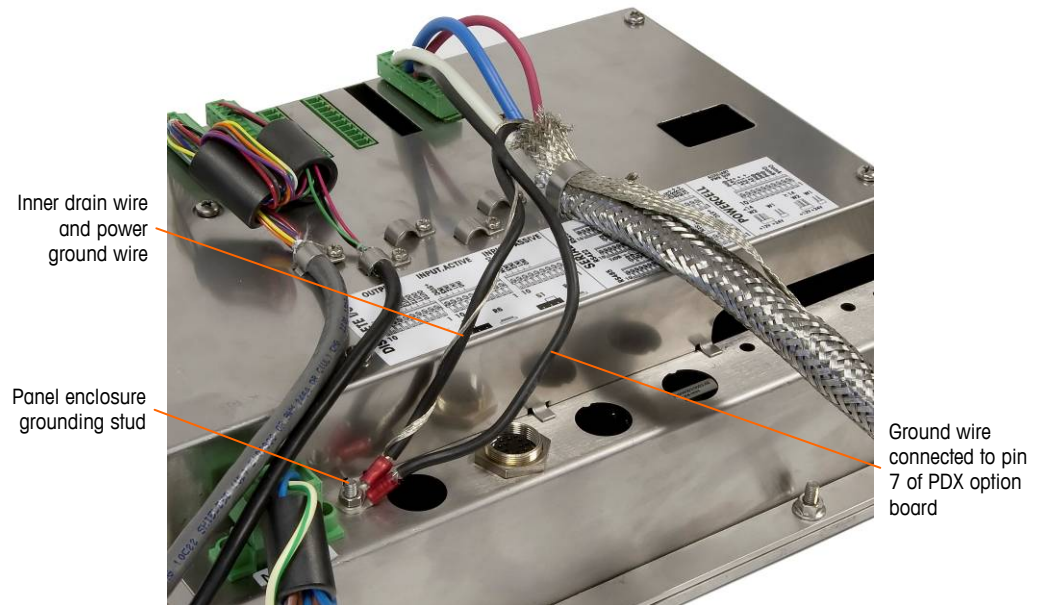

Figure A-53: Completed PDX Home Run Power Ground Connection, Panel Mount Enclosure
6. For an IND780 Q.iMPACT panel mount enclosure, make the terminations described in step 5 to the external ground stud indicated in Figure A-53.